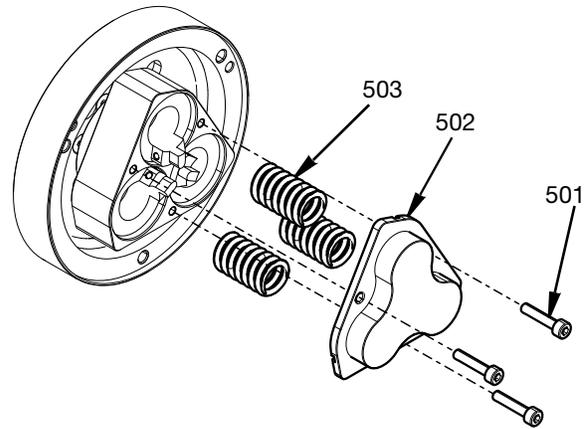

FIG. 35
17. Insert the springs (503) into the pistons, place the cylinder cover (502) over the springs. Apply threadlocker to screws (501). Tighten screws gradually to prevent binding. Torque to 27 in-lbs (3.1 N•m). See FIG. 35.